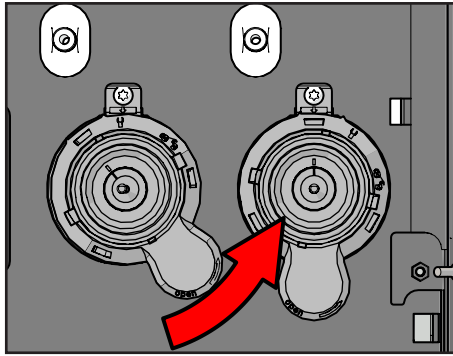
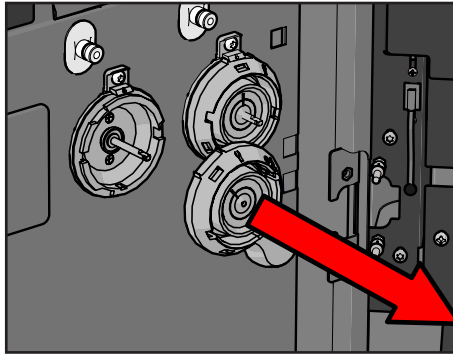

Figure 43.
Figure 44.
13. Remove the washer by turning it further counterclockwise (see Figure 43 and Figure 44).